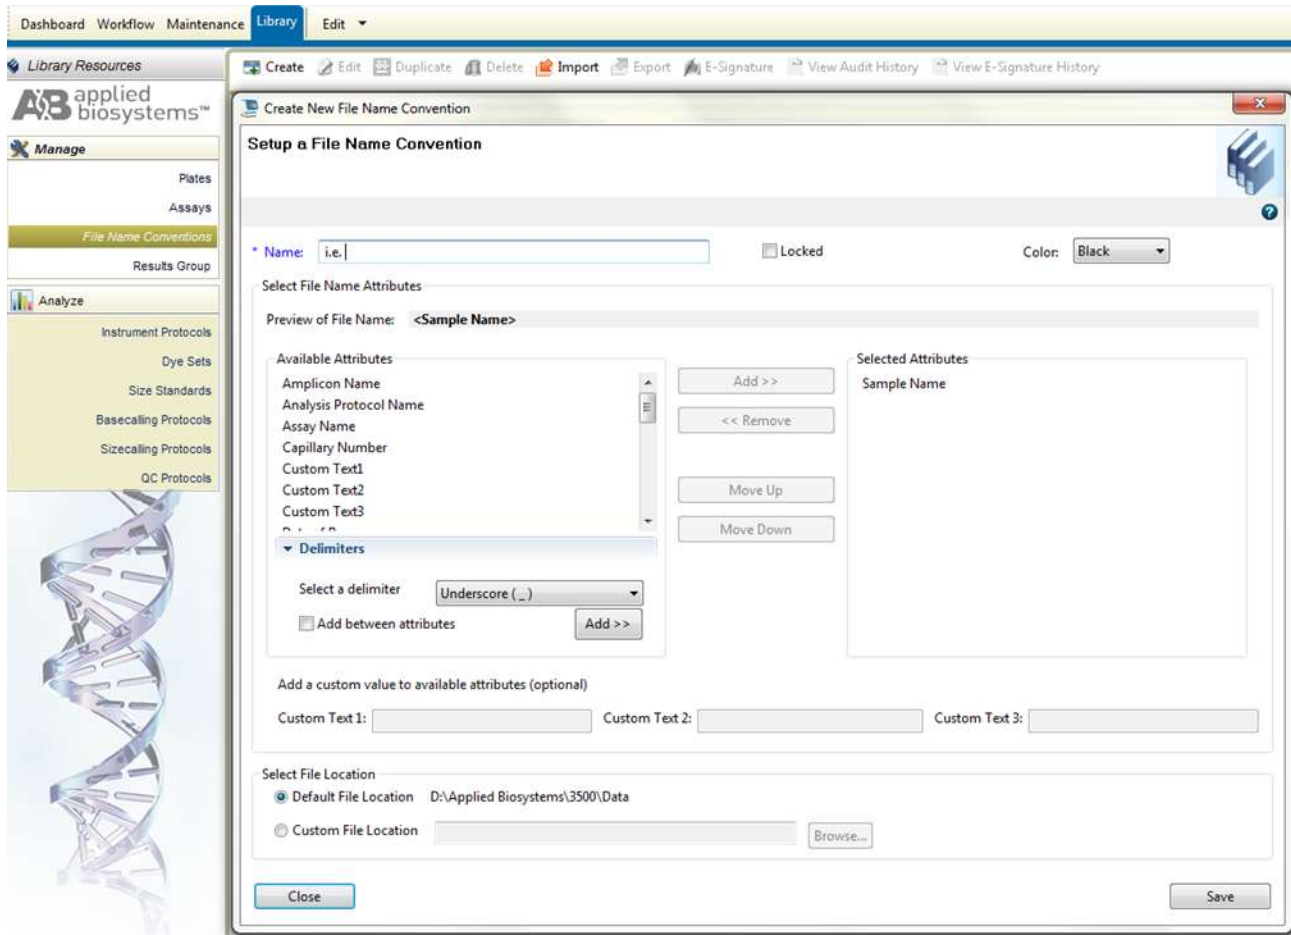

Figure 9. Screenshot for the “Create New File Name Convention” window on Applied Biosystems® 3500 Data Collection software
- c) select “*Create*” (Figure 9)